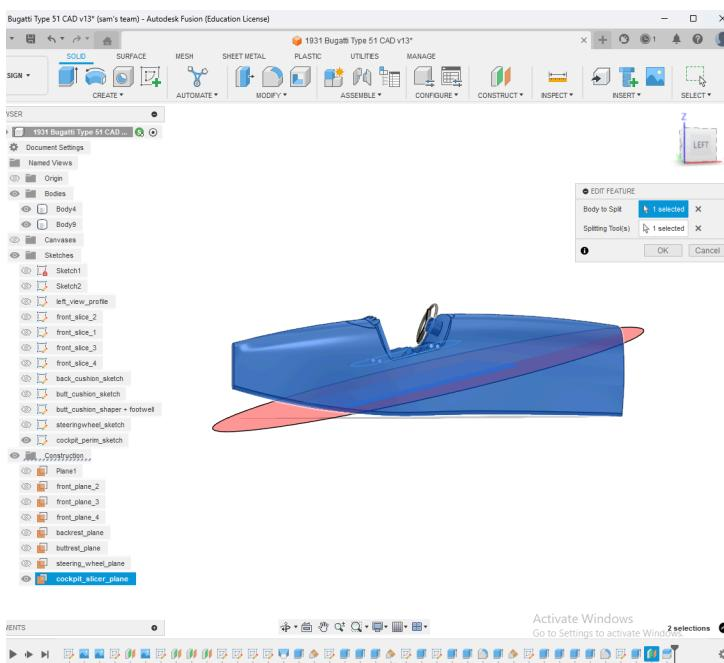

Fig. 21: Slicing the car body at the deepest point of the cockpit 'pod'
2. The cockpit pod's walls are now separated, but the bottom remains connected. To fix this, create a construction plane at the depth of the ring's extension into the car. Use this plane to split the car body, fully detaching the cockpit pod. See **Fig. 21** for reference.